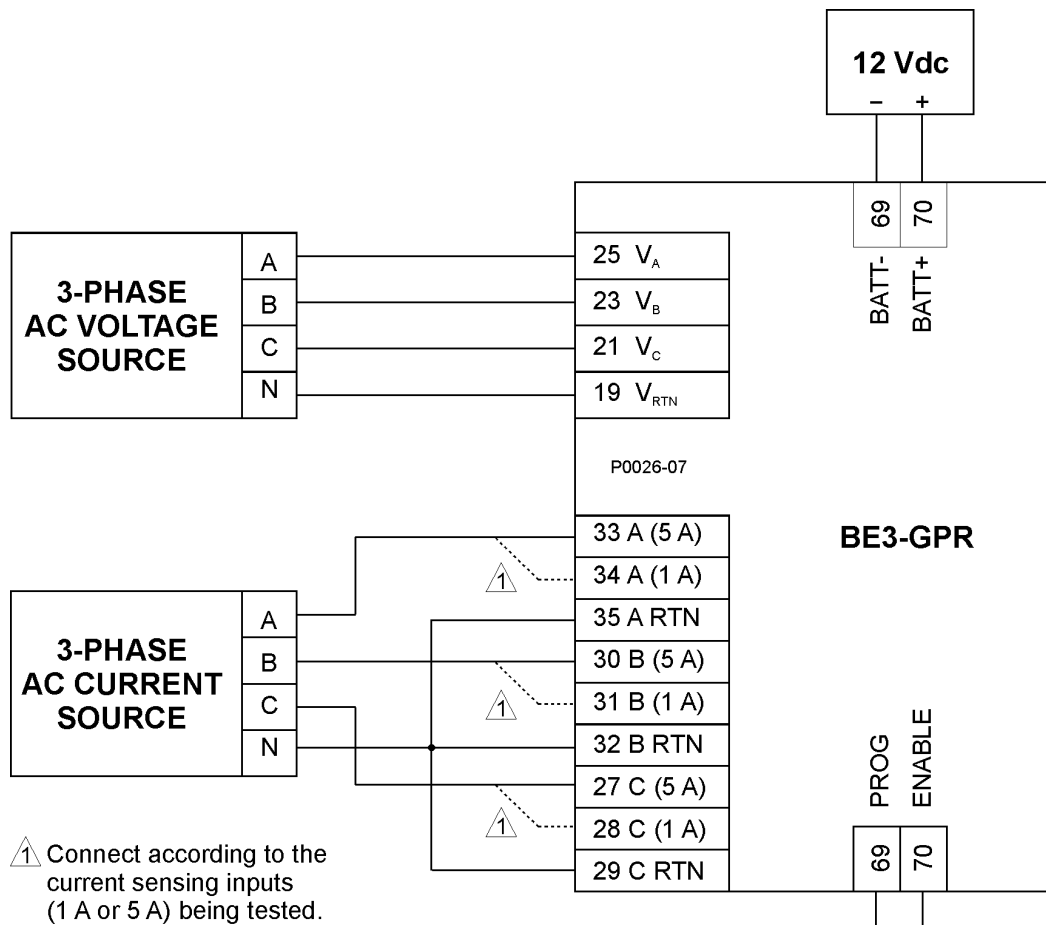

Figure 6-1. BE3-GPR Test Connections
1. Using Figure 6-1 as a guide, connect the ac current source to the 5A CT B input. NOTE: On three-phase, model type W units, all three-phase currents must be connected.
1. Using Figure 6-1 as a guide, connect the ac current source to the 1A A, B, or C CT input.